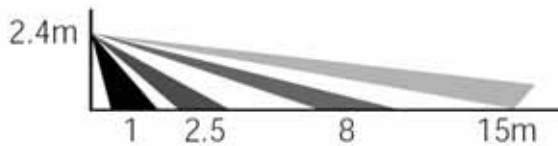

Figure 1
- Determine the location of the sensor according to the detection pattern shown in Figure 1.
- Refer back to the diagram in Figure 1 and adjust the sensor accordingly.